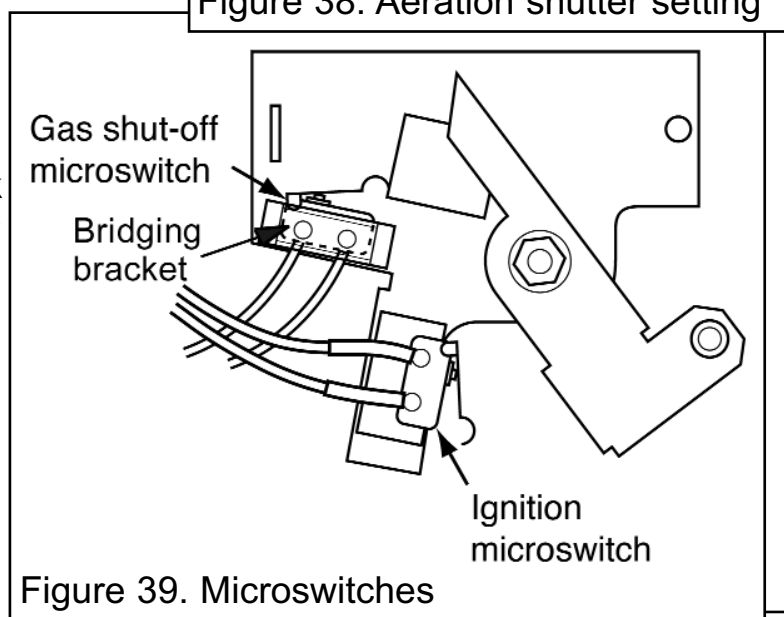

Figure 39. Microswitches
(See figures 39 & 40).
2. Disconnect the leads from the ignition microswitch (The lower of the two microswitches (See figure 39).
3. Detach the bridging bracket, microswitch assembly by removing two screws (See figure 39).